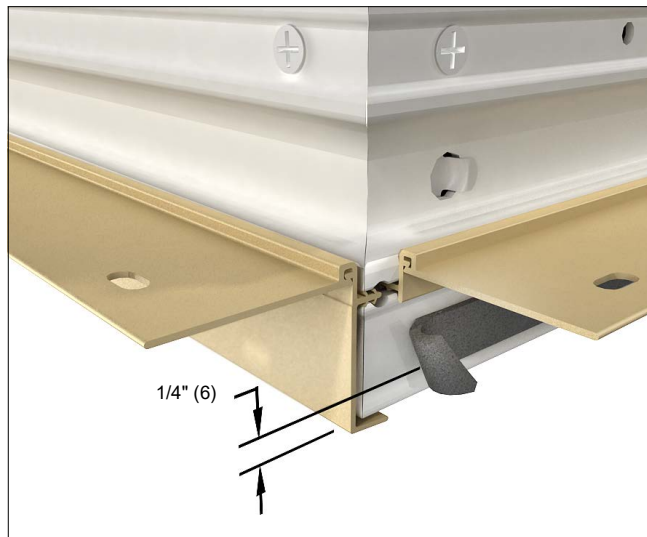

Figure 9
1. Lay frames on a flat surface in the desired mulling configuration (interior facing up). Remove nailing fin from the head jambs and sills that will be mulled together. Apply the mull sealant foam tape along the entire length of the head jamb of the lower unit. Mull tape should be located 1/4" (6) from the exterior edge of the Ultrex frame. See figure 9.